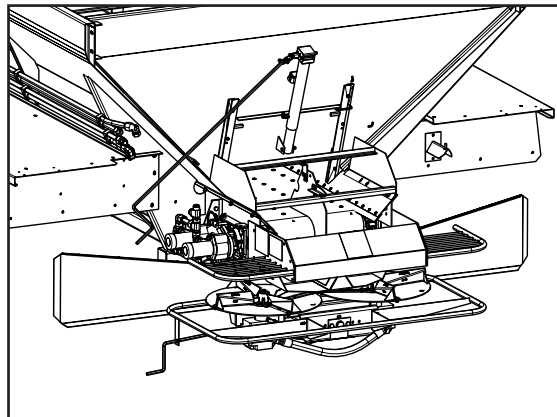

Figure 10
13. Figure 10 - Ensure all guards and shields are securely in place.